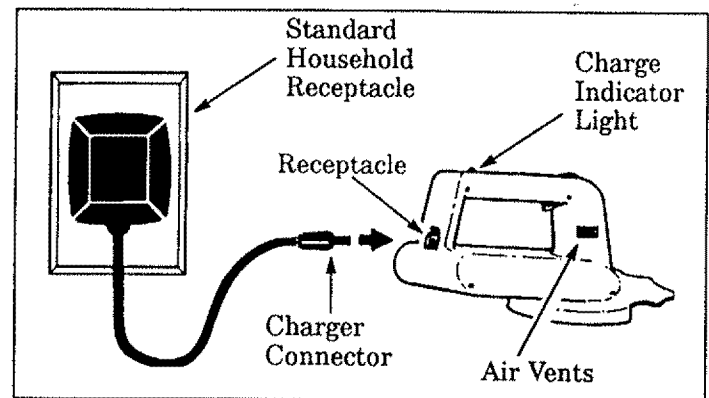

Figure 5
1. Plug the Charger Connector into the Receptacle on the back of the unit. Figure 5.
2. Plug the Charger into a standard household electrical receptacle of the proper voltage. See the voltage specifications on the charger. Figure 5.
2. Make sure the Receptacle and Air Vents are free of obstructions. Figure 5.